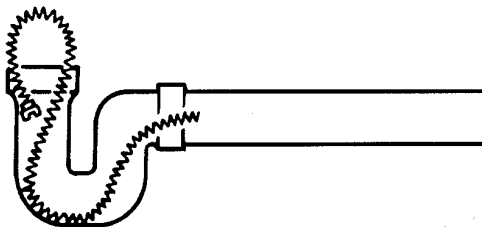

Figure 7 – Looping Cable In Line
- Secure the cable by looping it in the line (*Figure 7*). This procedure is especially useful when cleaning a line with a steep grade.